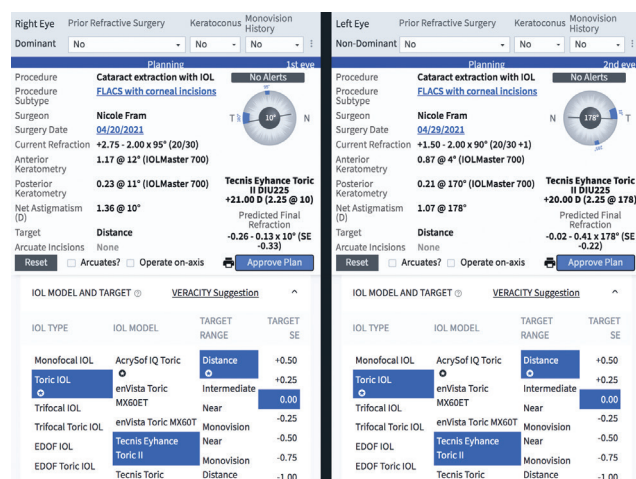

Figure 1. Sample Veracity surgical plan.
Figures 1 and 2 courtesy of Nicole R. Fram, MD
**Now.** The Veracity system allows us to integrate images and data, pick lenses, automate a surgical schedule, and include special comments with one click and to print it for the day of surgery (Figures 1 and 2). Once the postoperative refractions are performed 2 to 4 weeks after surgery, the EMR note with refraction is added to the system, allowing us to analyze our outcomes and optimize our lenses.